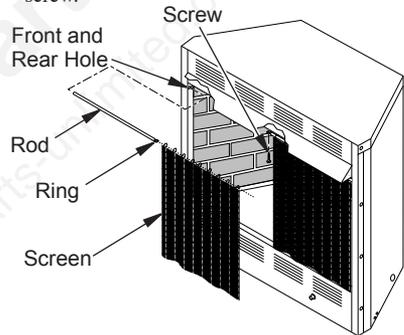

Figure 12 - Installing Fireplace Screen
1. Insert each rod through nine rings located at top of screen (see Figure 12).